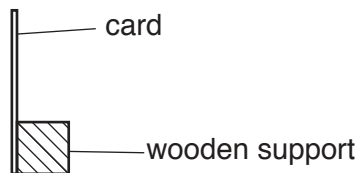

Fig. 3.2
- (iv) a white screen. The screen can be made from a sheet of white card (10 cm × 10 cm approx.). Some means of supporting the screen vertically must be supplied (e.g. fixing the white card to a small block of wood, as shown in Fig. 3.2).